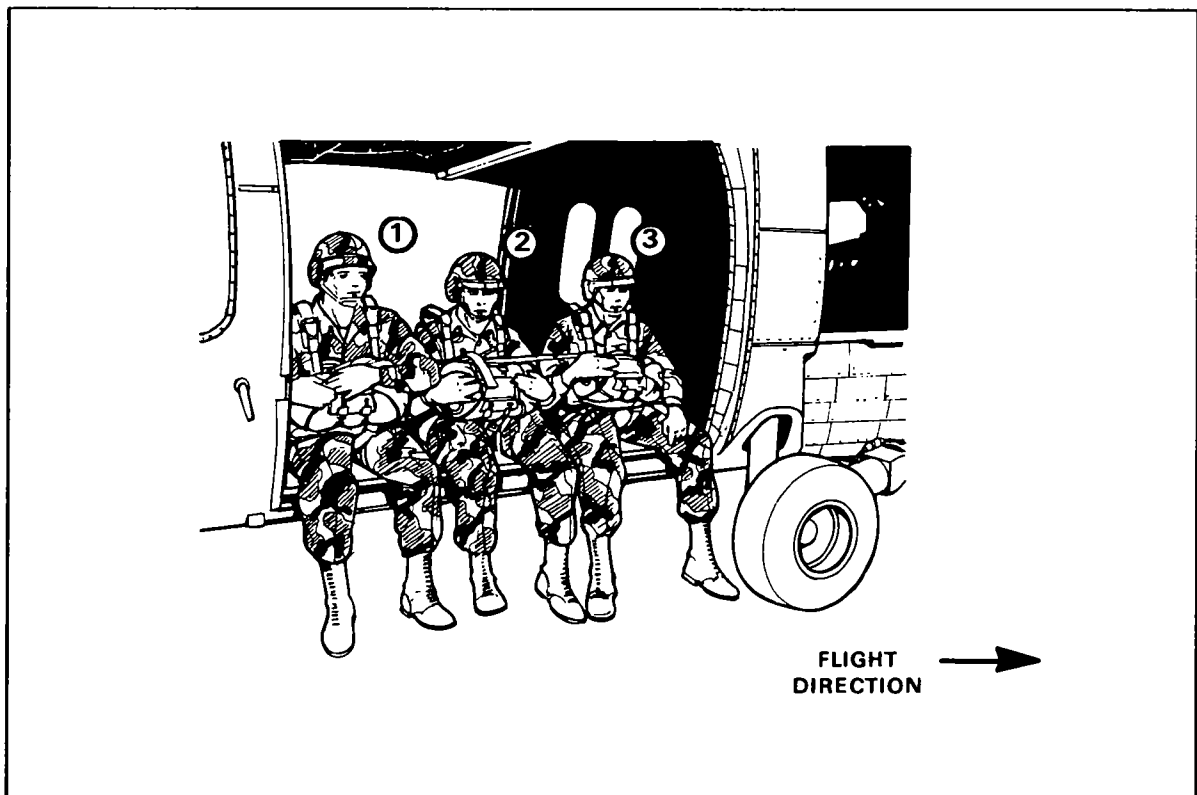

Figure 12-14. Parachutists (right door) with safety belt secured.
(3) Nos. 1 and 3 pass the running ends of their safety belt to No. 2 who fastens the belt and removes excess slack (Figure 12-14).